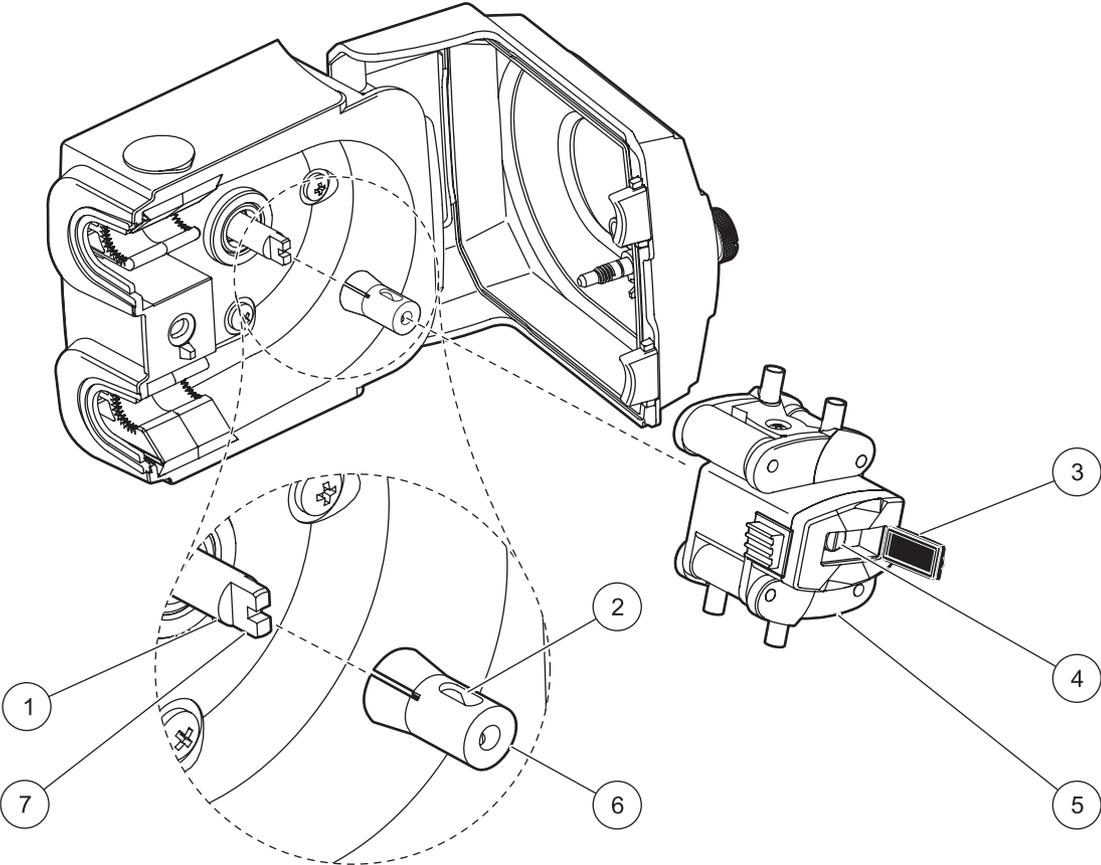

Figure 27 Pump rotor removal
2. Open the rubber flap on the end of the rotor and remove the screw with a flat-blade screwdriver (Figure 27).
3. Remove the rotor. A collet connects the rotor to the pump shaft and can come off when the rotor is removed (Figure 27).
5. If the collect was removed in step 3, align the recess in the collet with the tang on the shaft and push the collet on the shaft (Figure 27).